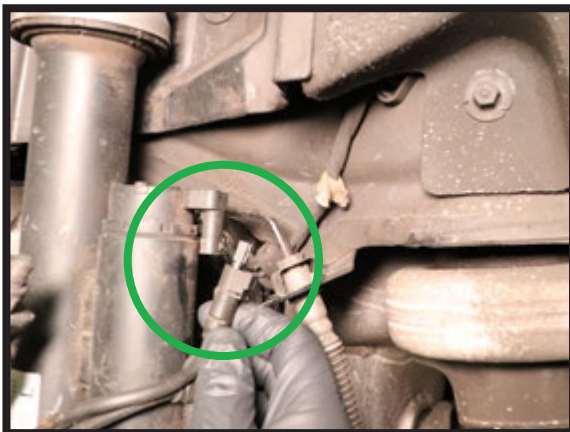

FIGURE 7
7. DISCONNECT BOTH ELECTRICAL CONNECTORS. (FIGURES 7, 8)